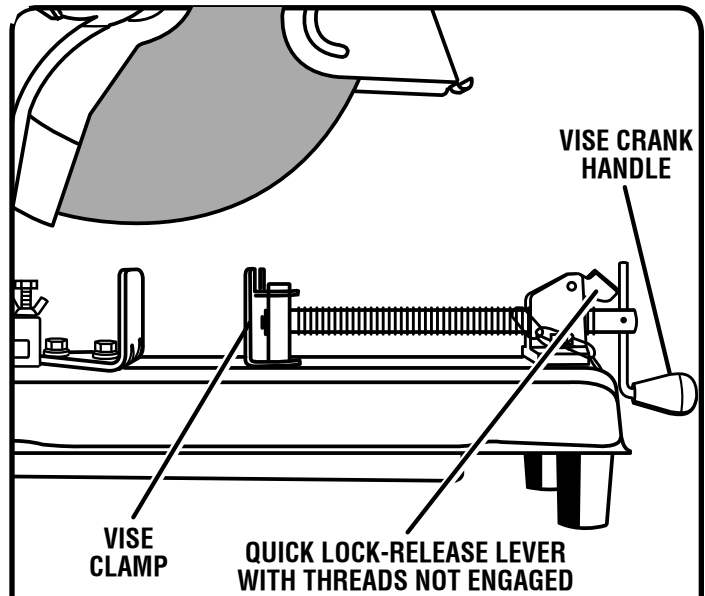

Fig. 9
See Figures 9 - 10.
See Figure 9.
- Lift up the quick lock-release lever as shown in figure 9 and pull back on vise crank handle to slide open the vise.